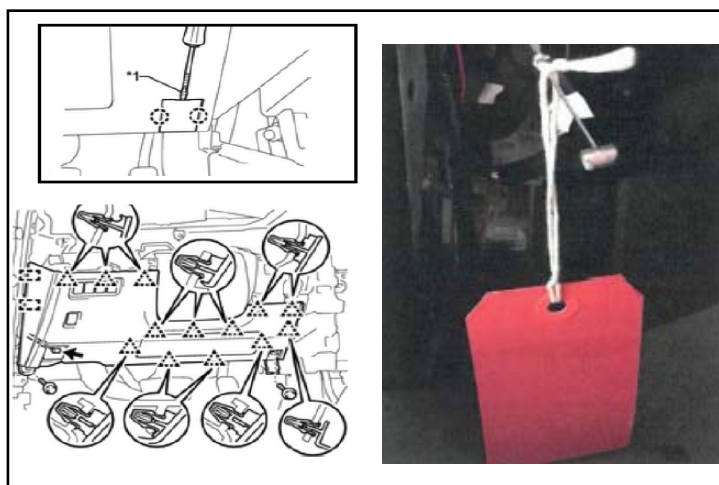

Figure 6
8. Remove the driver's side lower instrument panel finish sub-assembly. Using a screwdriver, detach the 2 claws to open cover. Remove 2 bolts and detach the 13 clips and 2 guides. Then disconnect each connector and hood lock control cable assembly. See Figure 6.
Note: Place Red Tag on instrument panel sub-assembly or hood release cable when removing hood latch cable from the hood latch release lever. See Figure 6. Red Tag required for PIO only. Tag is not part of the kit contents.